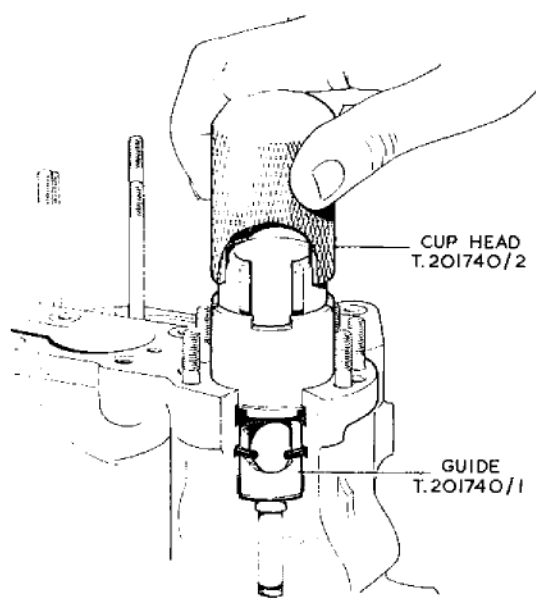

Fig. 22. Fitting servo liner inserts
with petroleum jelly and locate in the machined recess of the liner bore. Position the guide of assembly tool T.201740 (fig. 22) into the bore and centralise by positioning the smaller end section of the guide into the control rod housing. Place the liner (92) over the guide, locate the knurled cup head of the assembly tool over the guide but on to the top edge of the liner insert and press the liner firmly 'home'. Remove the assembly tool.